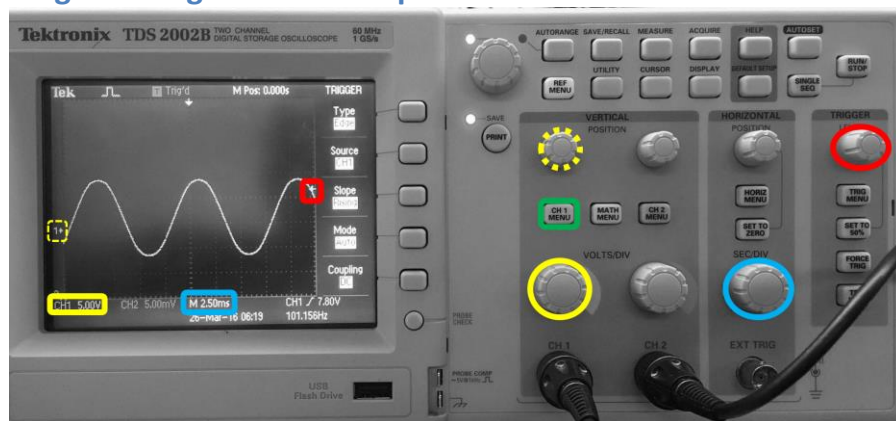

Fig. 1: Oscilloscope. Important control knobs and on-screen information
2. Press the CH 1 MENU button (Fig. 1, green) and make sure that Coupling is set to DC.
3. Adjust sec/div (Fig. 1 blue) – each horizontal line on the displayed screen represents the sec/div you selected, channel 1 volts/div (Fig. 1 yellow) – each vertical line on the displayed screen represents the volts/div you selected, and channel 1 vertical position (Fig. 1 yellow), until you can see the yellow line (channel 1 signal) on screen.